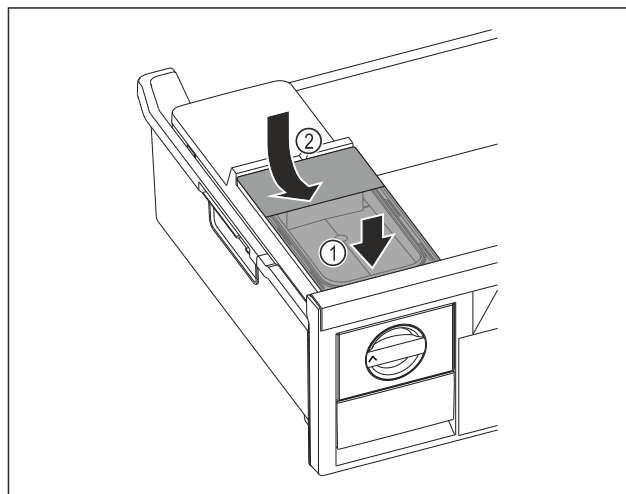

Fig. 121
- Position the water tank at the front. Fig. 121 (1)
- Lower the water tank at the rear. Fig. 121 (2)